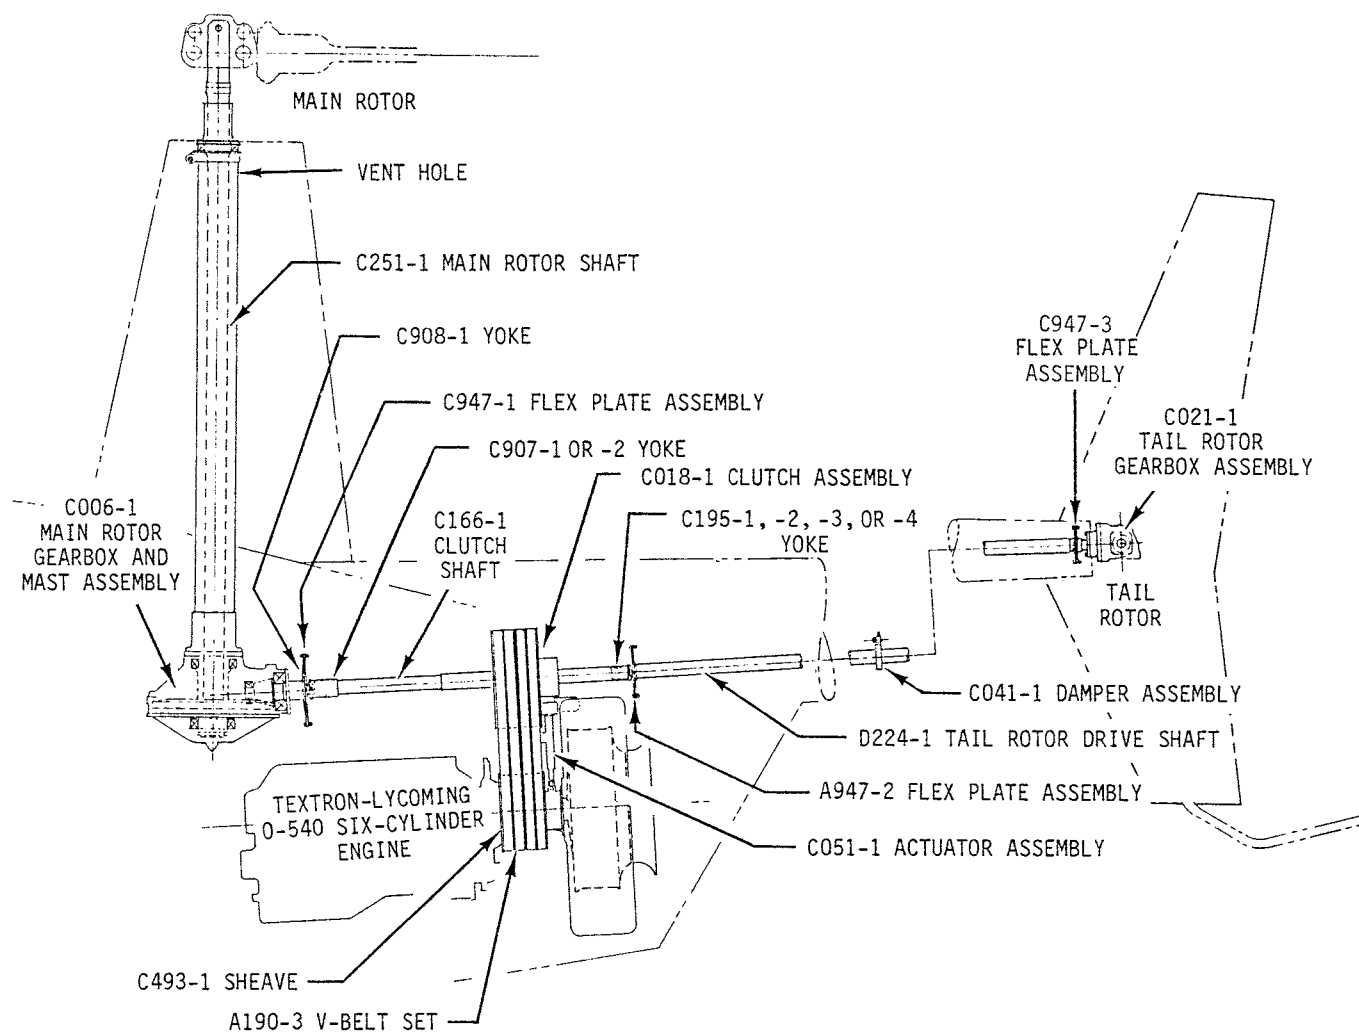

FIGURE 7-1 DRIVE SYSTEM
7.002 Description (see Figure 7-1)
Prior to operation of a new, overhauled or repaired gearbox, 6 ounces of A257-2 gear oil must be injected into the vent hole (see Figure 7-1) on the top aft side of the mast tube. Fill gearbox with oil to the level indicated on the sight glass decal. The gearbox must remain vertical during and after filling.